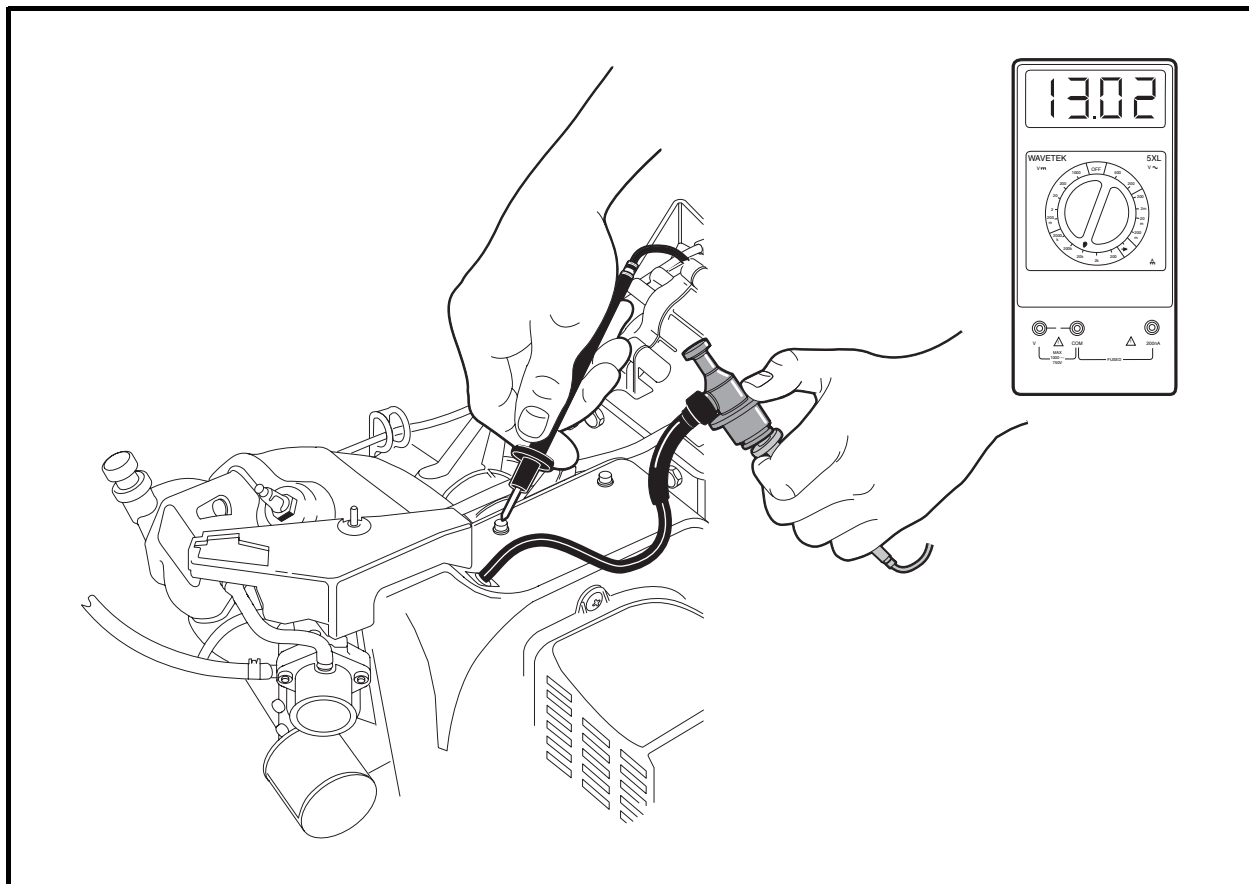

Figure 11-25 Secondary Coil Test – In Vehicle Test
- 4.1. Place the red (+) probe of the meter into the end of the spark plug cap that normally connects to the spark plug and place the black (-) probe on a clean unpainted surface of the engine or frame (**Figure 11-25, Page 11-24**).